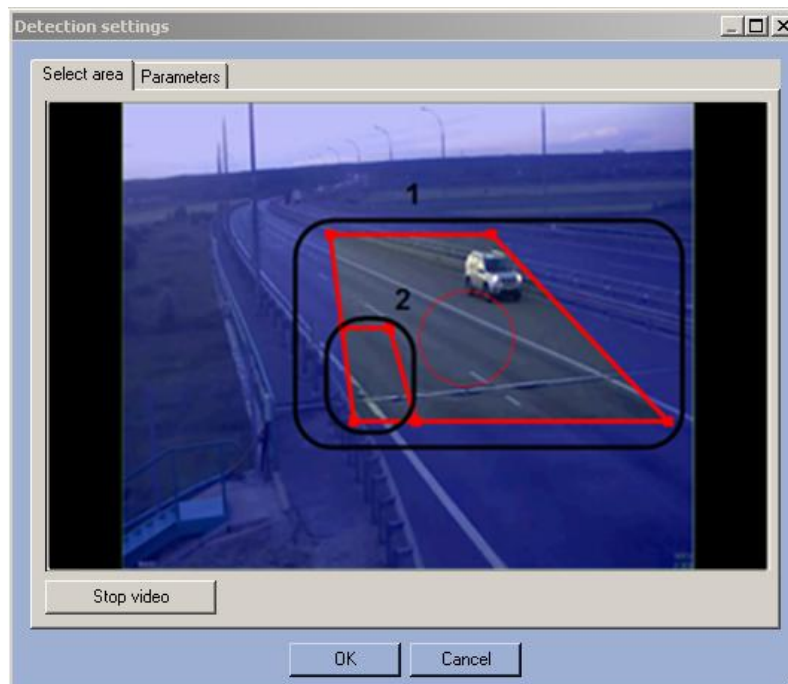

Fig. 6.3—5 Specify the analyzed area
- 3.3. Set the required size, shape and position of the analyzed area (Fig. 6.3—5, 1). To rotate the area, use the board dragging. To drag the area on the frame use the circle dotted line. To change the area size, use the grid points marked squares. The minimal height and size of the smallest base of trapezoid is 0.05 of the frame height.